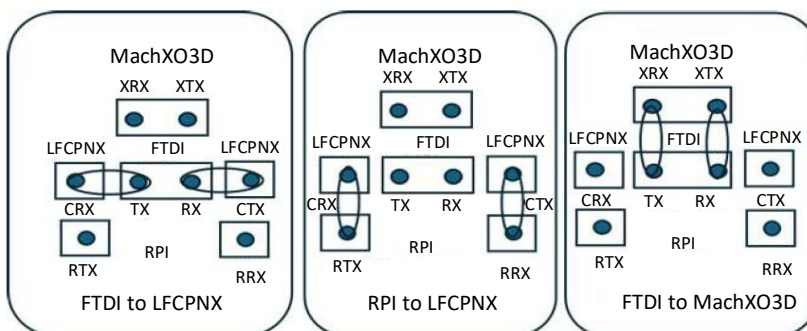

Figure 16.3. J24 PCB Placement
- Jumper J24 setting on board, as shown in Figure 16.3.